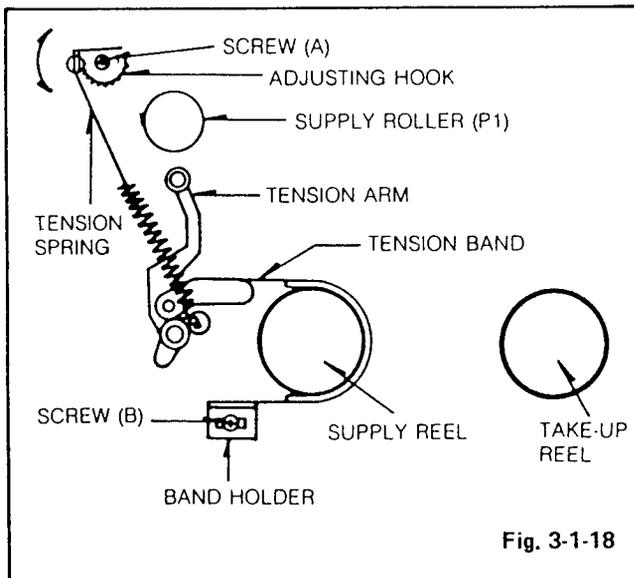

Fig. 3-1-18
- d) When the reading is out of spec, loosen the screw (A) a little, and turn the hook up and down (in Fig. 3-1-18) in the direction which requires tension, when the reading is large turn it down, when small up.